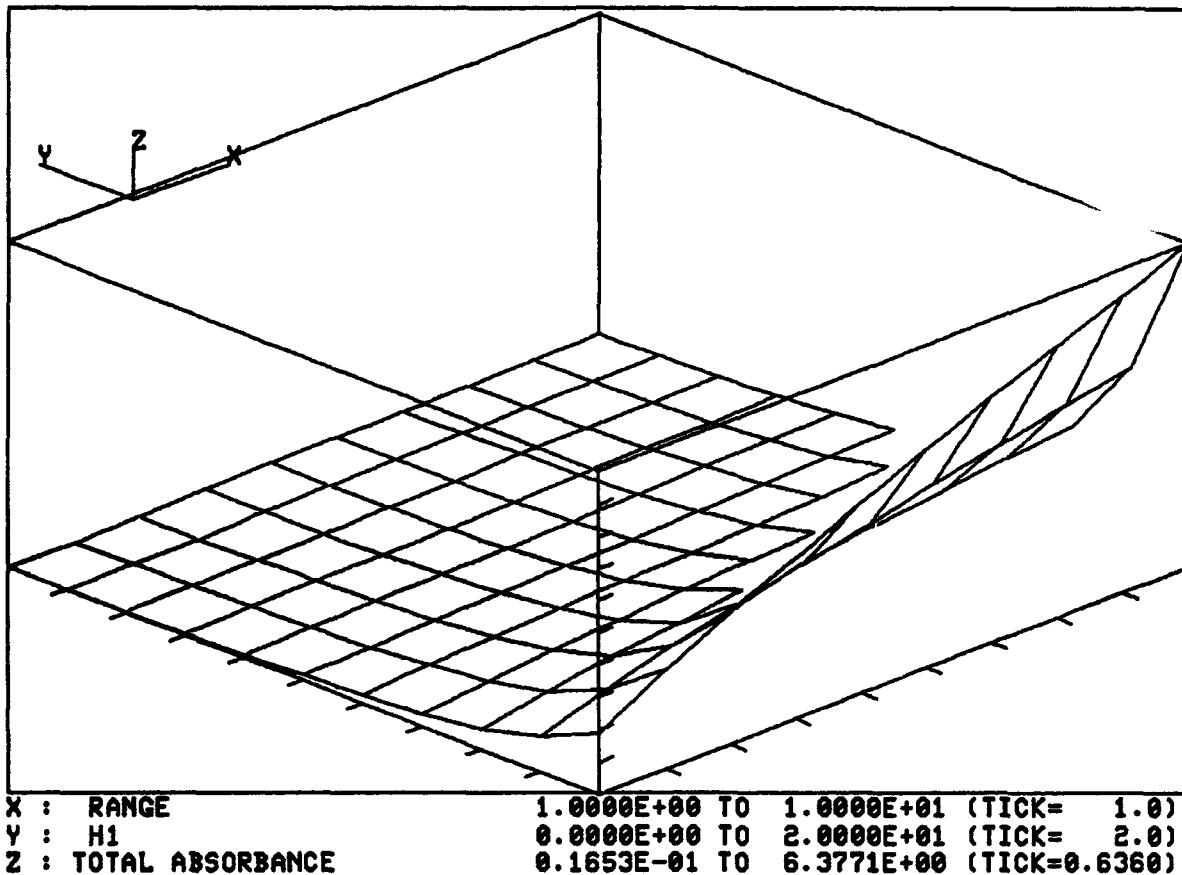

Figure 75. Example of Plot #3, A 3D Plot of Optical Depth as a Function of RANGE and H1 for a 45° Rotation of Both Axes
- 15) Type 't2a' to convert the z axis transmittance values to optical depth values. Type 'plot VT240' and then '45,45' to see the results shown in Figure 75.